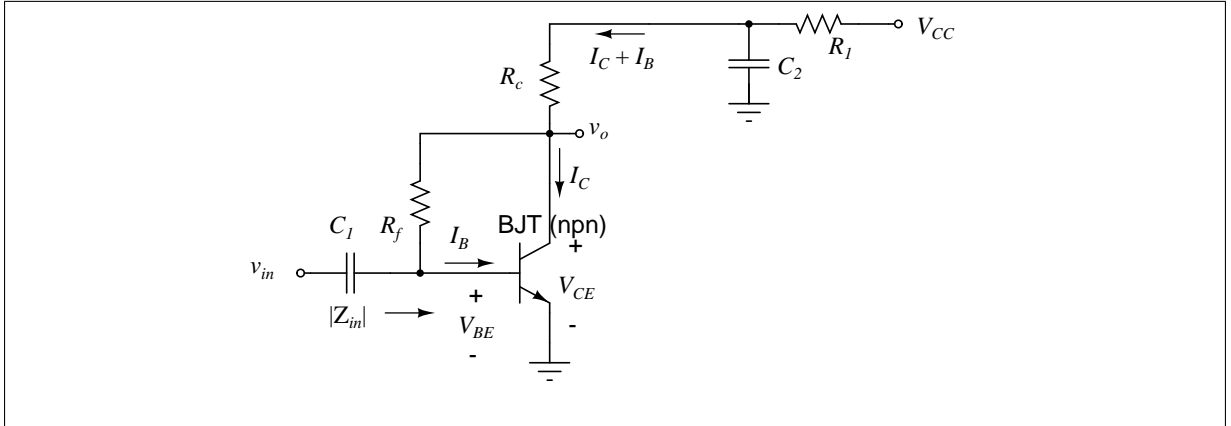

Figure 1: Schematic of an RF amplifier using a BJT.
1. An RF amplifier can be built using a BJT. Refer to the circuit given in Fig. 1. TRC-11 uses two of such amplifiers. The values of the resistors and capacitors should be calculated as described below.
A schematic diagram of the first IF amplifier is given in Fig. 1. Mount the three leads of